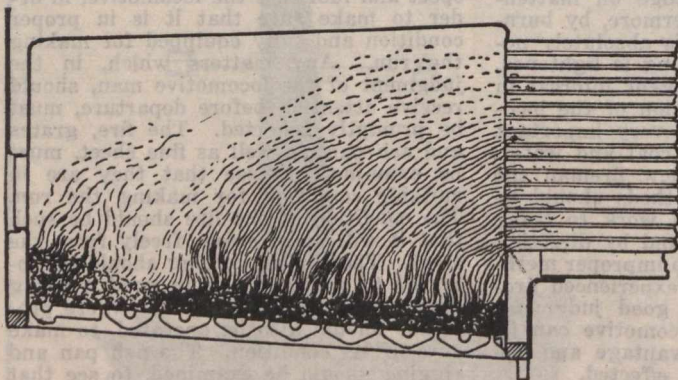

Fig. 3.
25. Fig. 3 illustrates the effect of